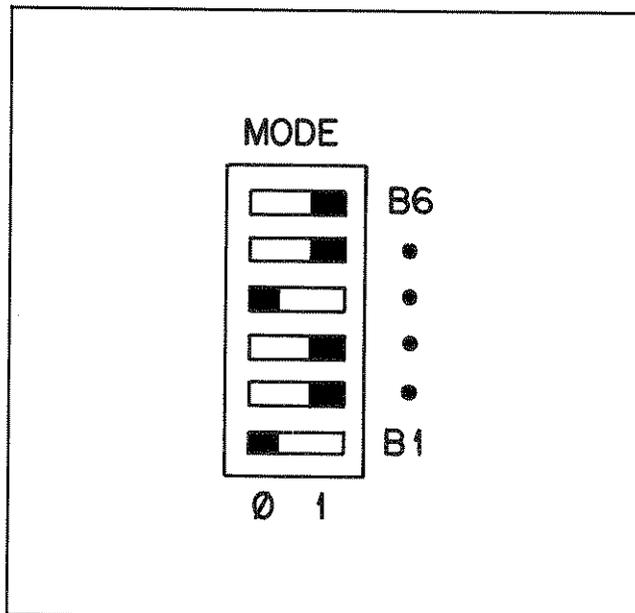

Figure 3-2. MODE-Switch Settings for Front-Panel Control
- a. Check that the rear-panel MODE switch settings are as shown in Figure 3-2.
3-11 The unit is shipped from the factory configured in the normal operating mode—local sensing and programming. Besides jumpers between output and sense terminals, normal operating mode requires the MODE switch settings shown in Figure 3-2.